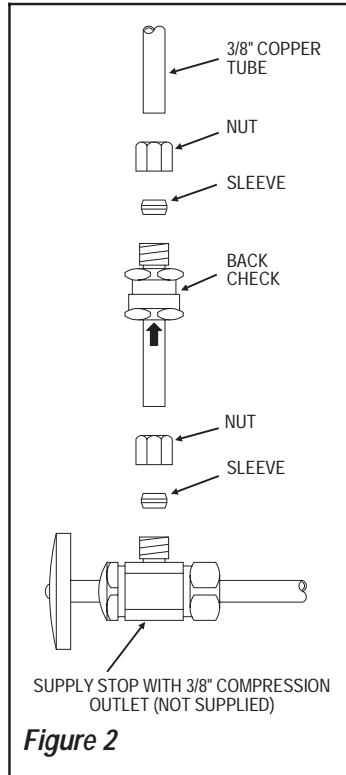

Figure 2
Step 1 — Install Back Checks (Option) (Figure 2)